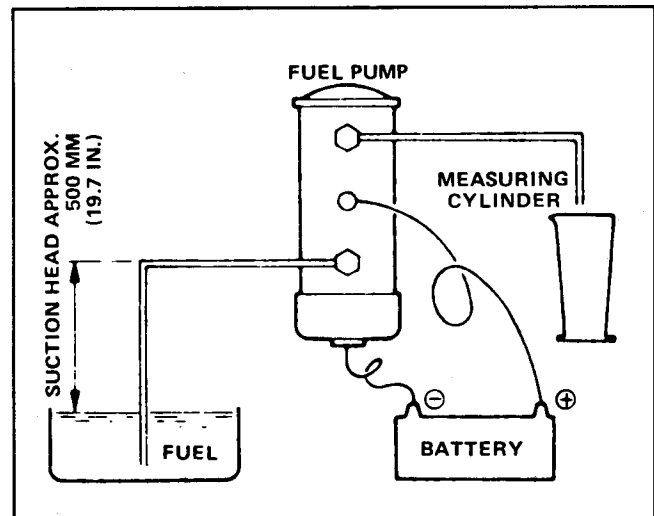

Figure 35
2. If no pumping action occurs when the ignition switch is turned on, connect a 12 volt DC battery directly to the pump (Fig. 35). If the pump now operates, check for an electrical failure of the pump circuit, eg. fuses, connections, wires, etc.
3. The delivery of the fuel pump may be checked by disconnecting the fuel lines from the water separator and fuel filter and routing them to a can of filtered diesel fuel and a drain pan (Fig. 35). Activate the pump and measure the amount of fuel pumped in during a 15 second time interval. The standard pump rate is approximately 8 ounces (225 cc) in 15 seconds.